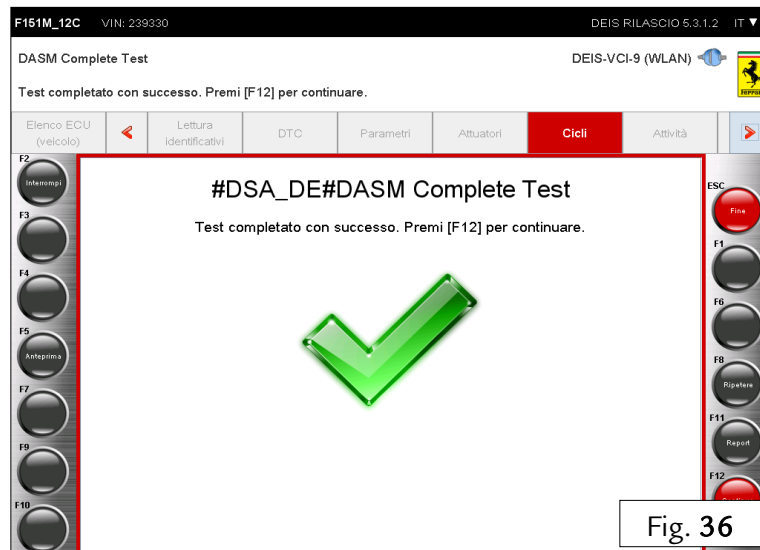

Fig. 36
- If the calibration cycle has been completed successfully, no other adjustments are necessary. – Fig. 36.